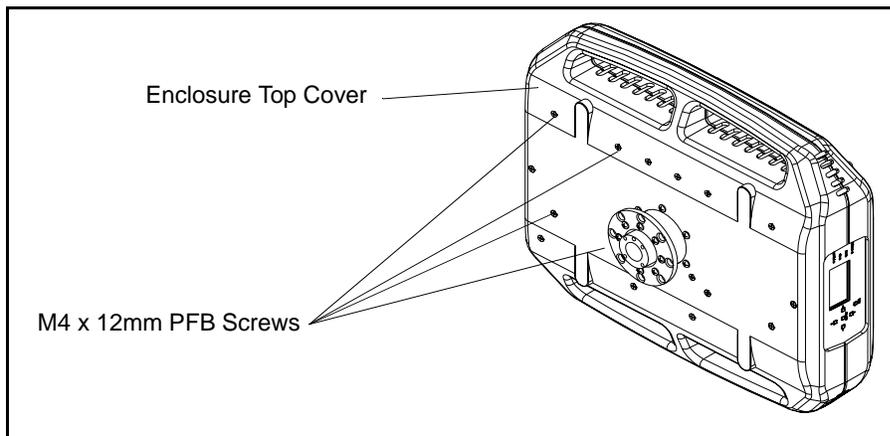

Figure 2-58: VLX Wash Power Supply #2 Assembly
- Step 3. Using 3/16" hex wrench and as indicated in Figure 2-58, remove four 1/4-20 x 2" CAP SOC screws and two 1/4-20 x 1.5" CAP SOC screws and remove base cover.
- Step 4. At upper enclosure top cover, as shown in Figure 2-58, remove four M4 x 12mm PFB screws. It may be necessary to turn enclosure to access screws.